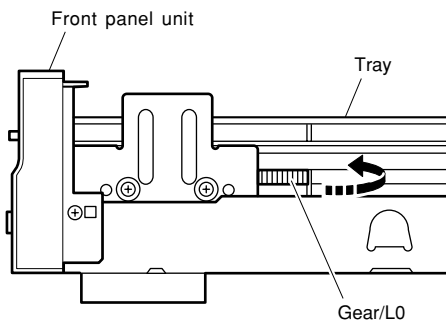

Fig. 2
- b. Turn gear/L0. (Fig. 2) Counter clockwise gradually until immediately before the tray starts to move and stop it there.